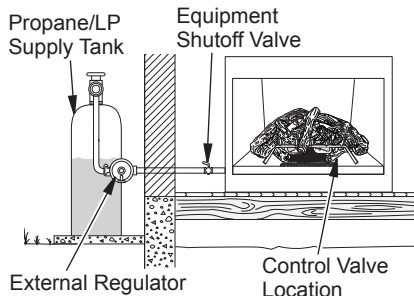

Figure 18 - Checking Gas Joints for Propane/LP Gas
3. Check all joints from gas meter to equipment shutoff valve for natural gas or propane/LP supply to equipment shutoff valve for propane/LP (see Figure 18 or 19). Apply a noncorrosive leak detection fluid to all joints. Bubbles forming show a leak.
4. Check all joints from equipment shutoff valve to control valve (see Figure 18 or 19). Apply a noncorrosive leak detection fluid to all joints. Bubbles forming show a leak.